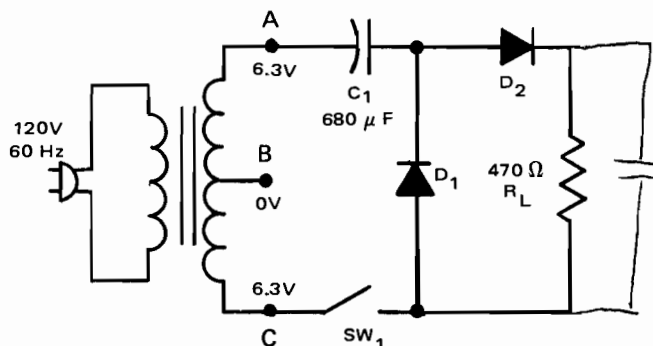

Fig. 15-5-1
1. Construct half-wave voltage doubler as in Fig. 15-5-1.